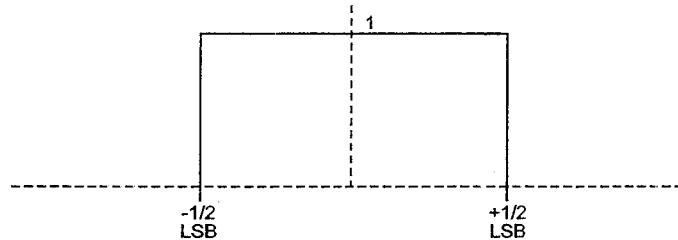

Figure 8.15
The last assumption is key to making the analysis easier—it assumes a uniform probability density of 1 for errors which range from $-\frac{1}{2}$ LSB to $+\frac{1}{2}$ LSB. Graphically, this is shown in Figure 8.15 on page 299, which indicates that the probability that an error will be between $-\frac{1}{2}$ LSB and $+\frac{1}{2}$ LSB is 100% (1) and is constant between those two points. Constant says it is just as likely that one value will occur as another. No errors can occur outside the $-\frac{1}{2}$ LSB to $+\frac{1}{2}$ LSB limits because that moves the error into the same range of a different ADC output code.
It can be seen that the average error is 0LSB, halfway between the 2 extremes. Just like the average value of a sine wave, we cannot get any useful information by averaging the noise. (We have already discussed that the errors can be averaged to zero.) However, we can use the same RMS concept used on a sine wave to get useful information about the noise. Square the noise, sum it then take the square root. The noise, in this case, is represented by the probability density function in Figure 8.15 and its RMS value is given by⁴ equation (8.8) for the uniform density distribution. This equation results from integration of the probability density function and is not derived here. Suffice it to say that the "12" is a constant of integration resulting from the area under the constant probability density curve shown in Figure 8.15 and is contained in the equation for variance of that distribution.⁵